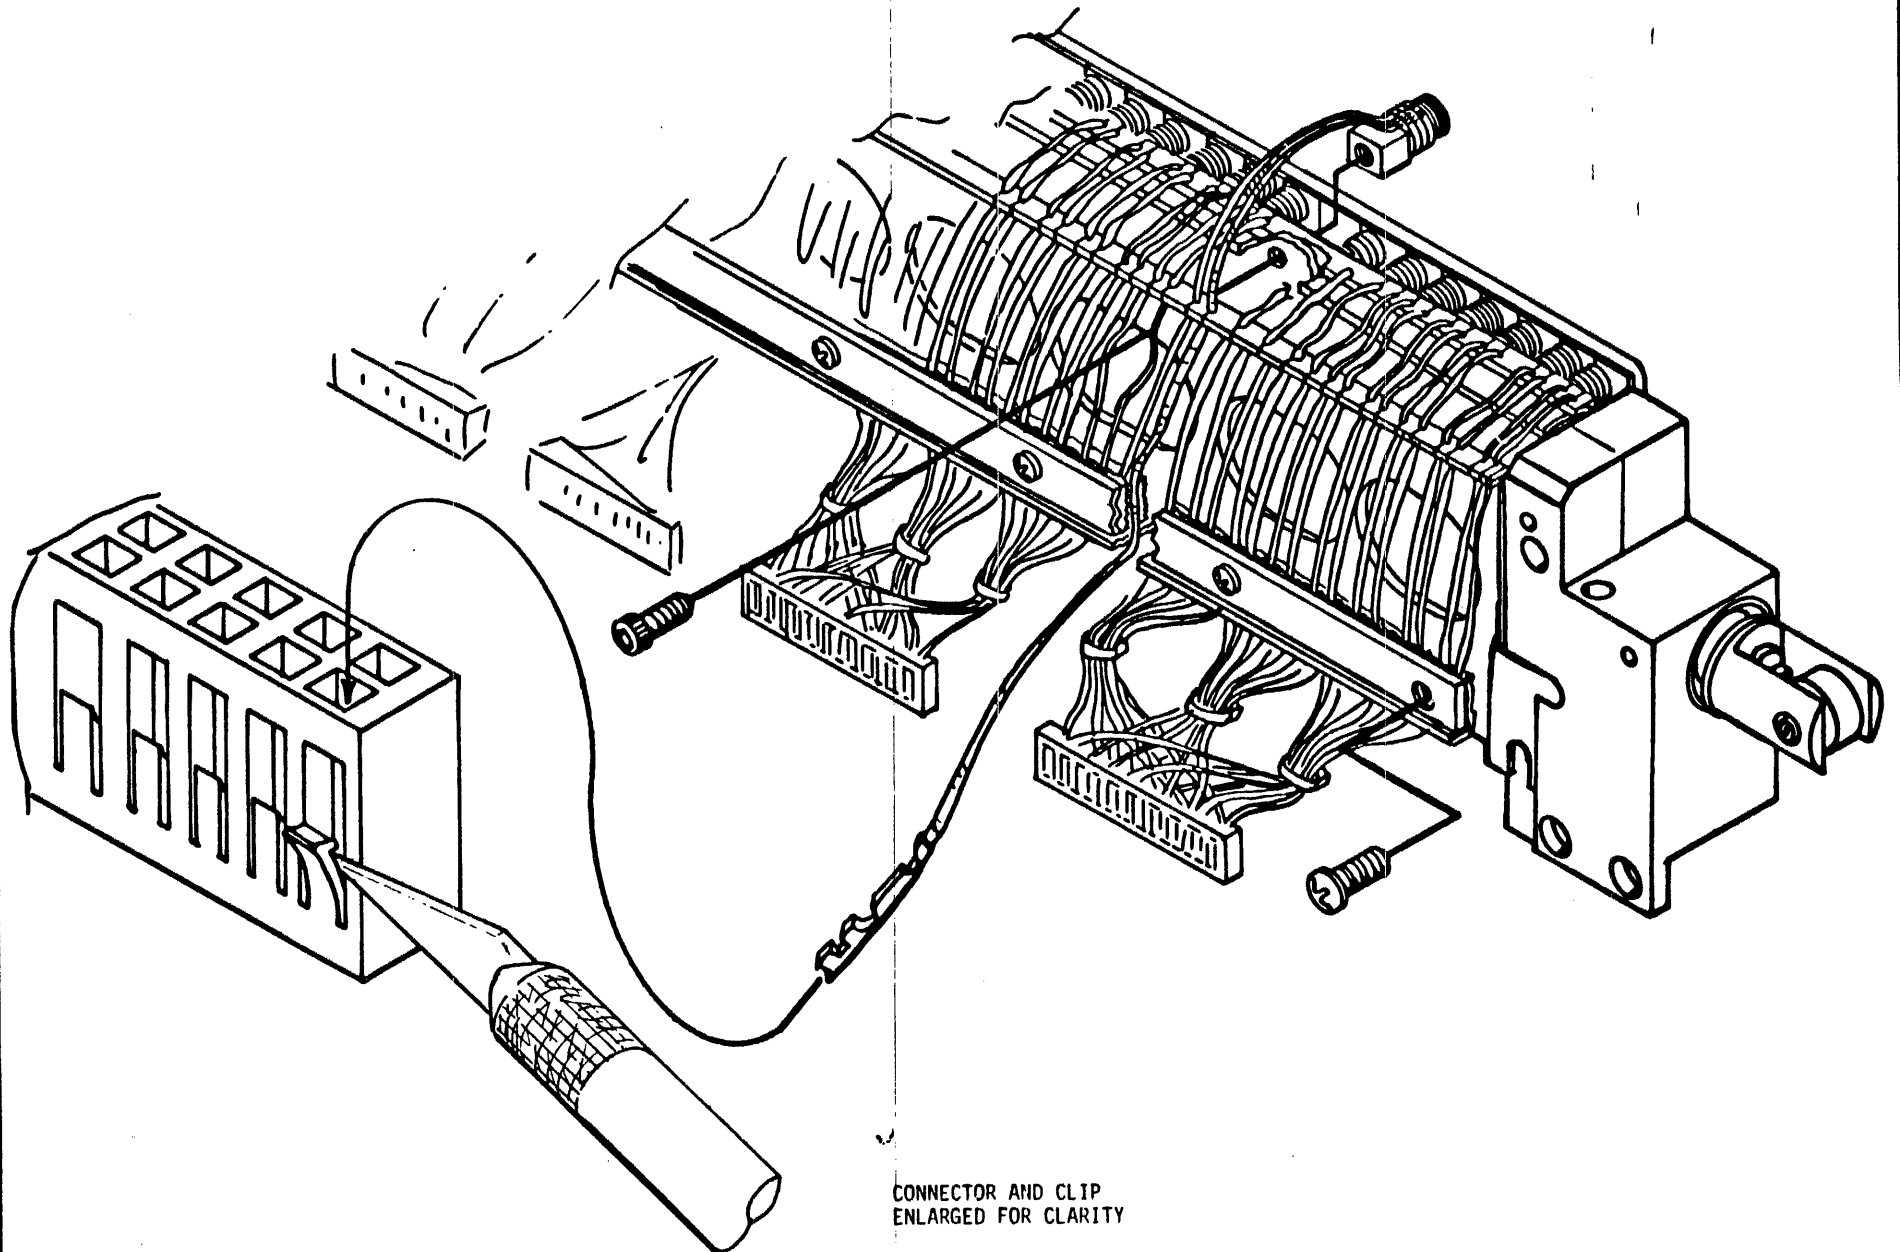
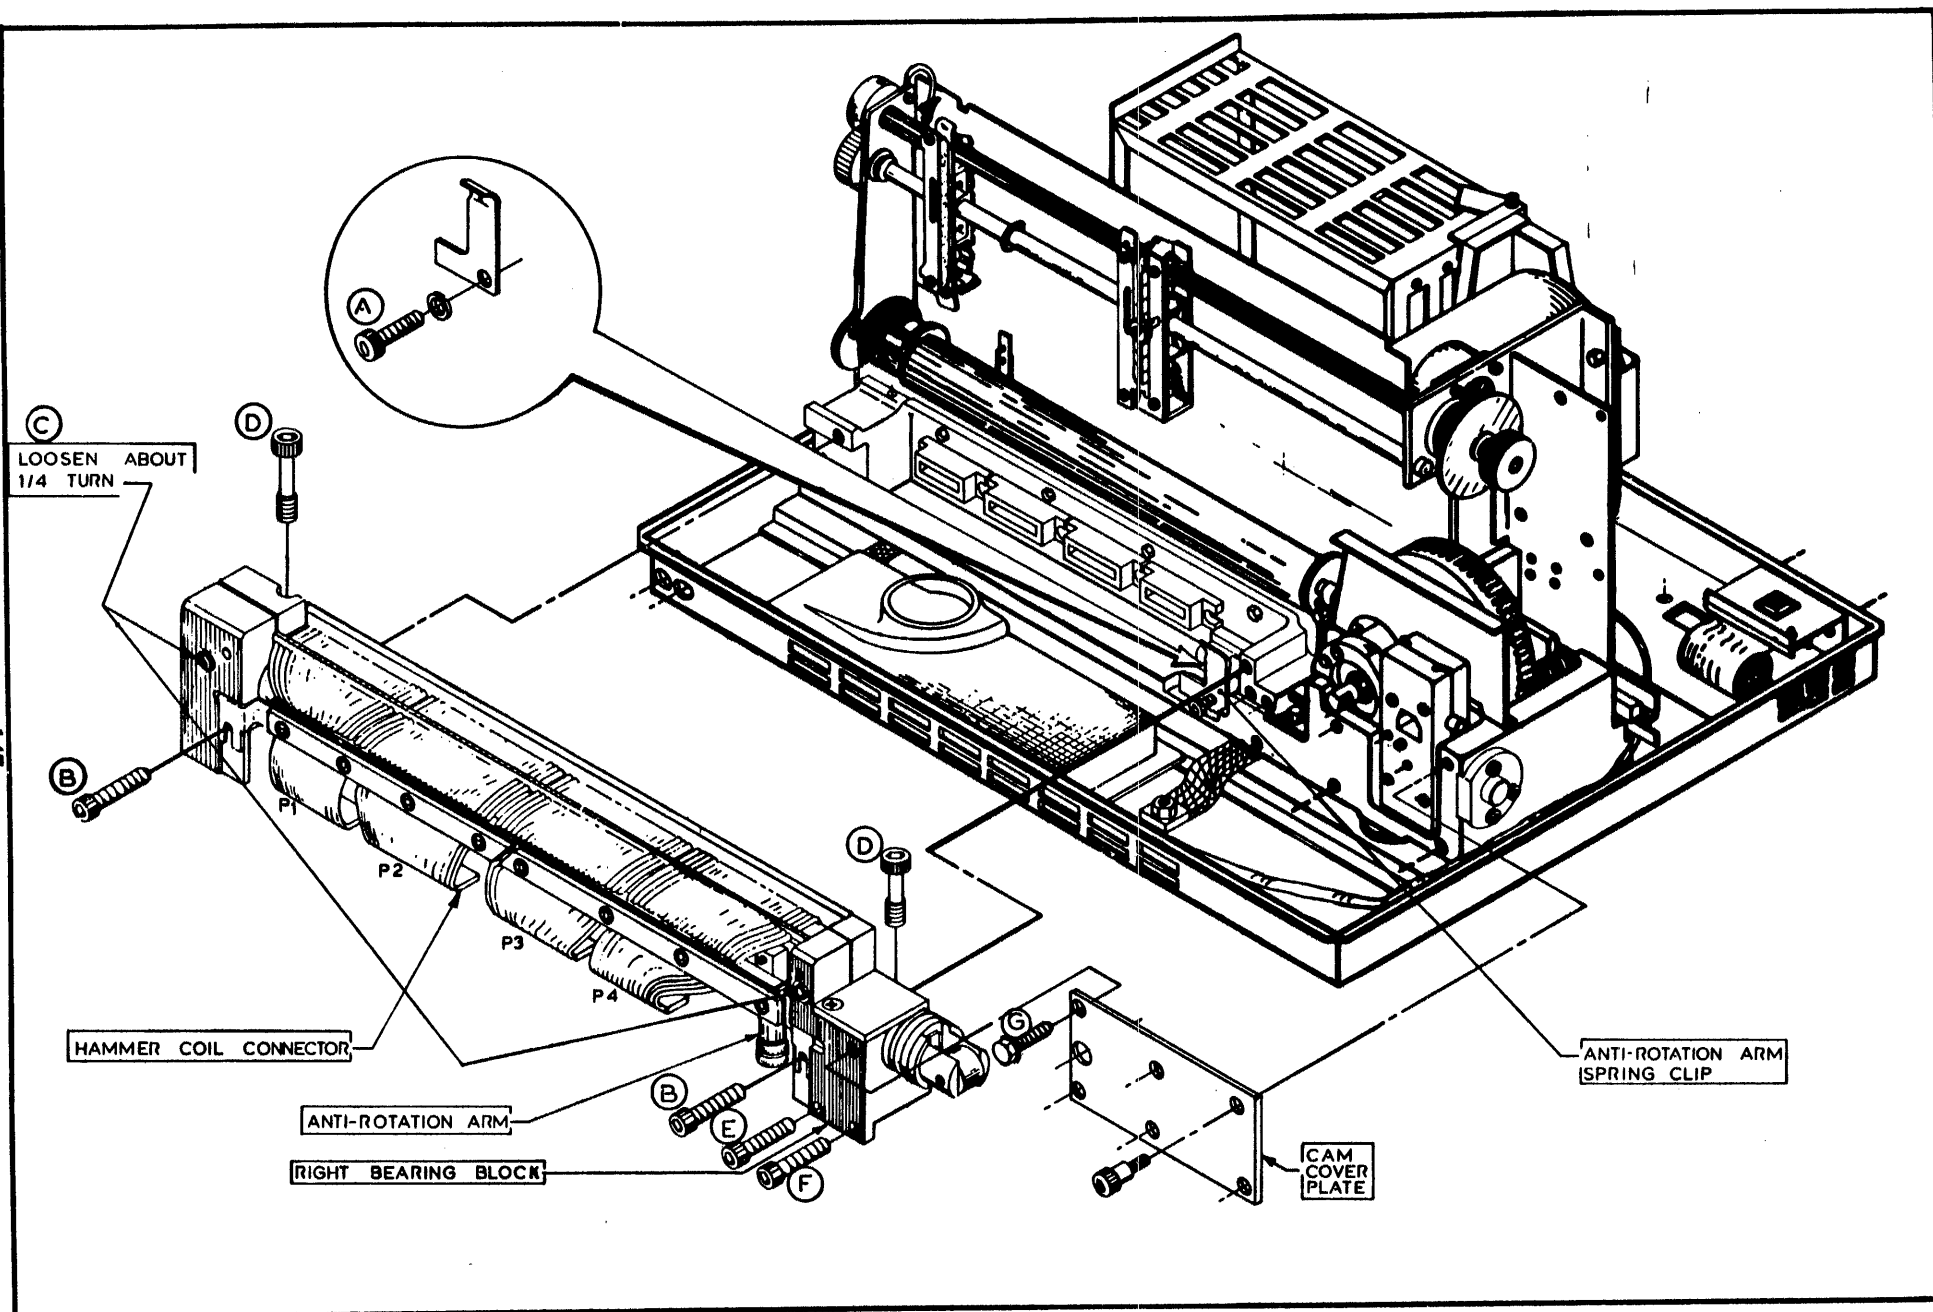

Figure 90 Removing the Hammer Coil
Figure 92 Removing the Shuttle Assembly
- c. Remove the 3/32 inch Allen head screw holding the defective coil (**Figure 90**).
- f. Remove the four screws from the related wire clamp on the comb bracket (**Figure 90**) and release the coil wires from the bracket.
- h. Disconnect each of the leads of the defective coil from the connector (**Figure 90**) as follows:
To remove the Shuttle Assembly, refer to **Figure 92** and proceed as follows:
- b. Loosen the screw that holds the anti-rotation arm spring clip (**Item A, Figure 92**).
- c. Remove the right and left comb retaining screws (**Item B, Figure 92**).
- e. Loosen both bearing clamp bolt about one quarter turn (**Item C, Figure 92**).
- f. Loosen the screw holding the rear of each of the two bearing blocks (**Item D, Figure 92**). Note these screws are captive. Do not attempt to remove them from the Shuttle Assembly.
- g. Remove the left screws (**Item E, Figure 92**) at the bottom front of the right bearing block. Then remove the right screw (**Item F, Figure 90**) at the bottom front of the right bearing block.
- h. Remove the screw from **(Item G, Figure 92)** the upper left corner of the cover plate.